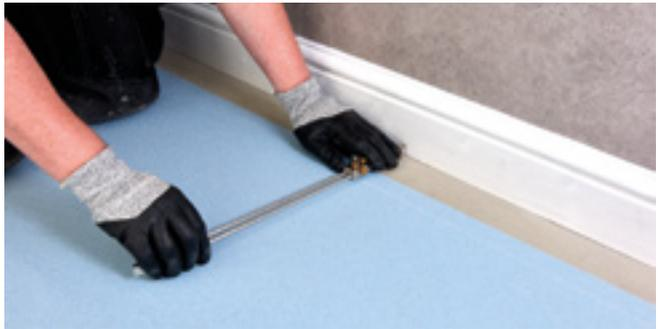

Figure 2 Scribing the wall profile
- ▶ Depending upon the depth of the recesses, use either a bar scriber or a pair of scribes to trace the profile of the wall. The scribes should be set to allow for the deepest recess or rake of the wall. Holding the scribes square to the edge, trace the wall profile onto the face of the sheet (fig. 2). With this method, all irregularities of the wall will be accurately reproduced onto the surface of the sheet. If the scribed line is difficult to see due to the colour or decoration, rub suitably contrasting chalk dust into the line to highlight it.